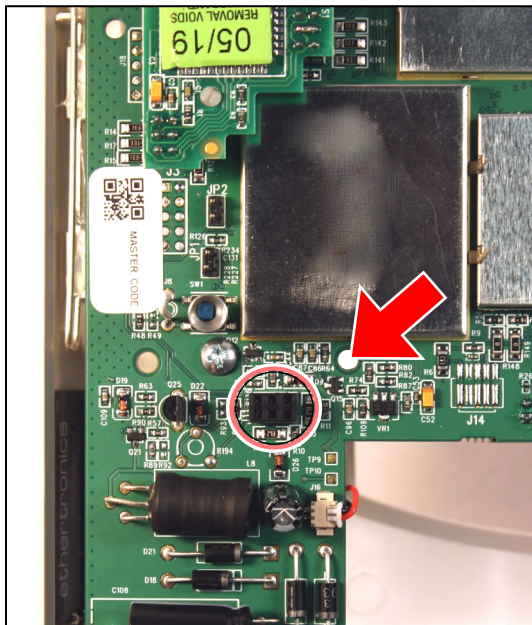

Fig. 2: "Header Socket" (circled)
2. Use Fig. 2 to locate the **Header Socket** located near the middle left side of the Hub PCB (circled). Also locate the Standoff hole (arrow).